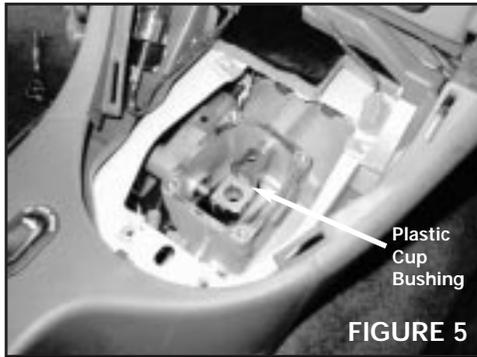

FIGURE 5
5. Using a 13mm socket, remove four (4) hex head bolts that fasten stock shifter assembly to transmission. Discard bolts, new ones are supplied. Lift shifter assembly straight up and off. Note: you may have some difficulty in removing stock shifter from transmission due to adhesive sealant applied at the factory.
- Remove and inspect plastic cup bushing inside transmission, replace if worn or damaged. This part is available from Ford dealers. Re-install bushing in transmission (Refer to Fig. 5).